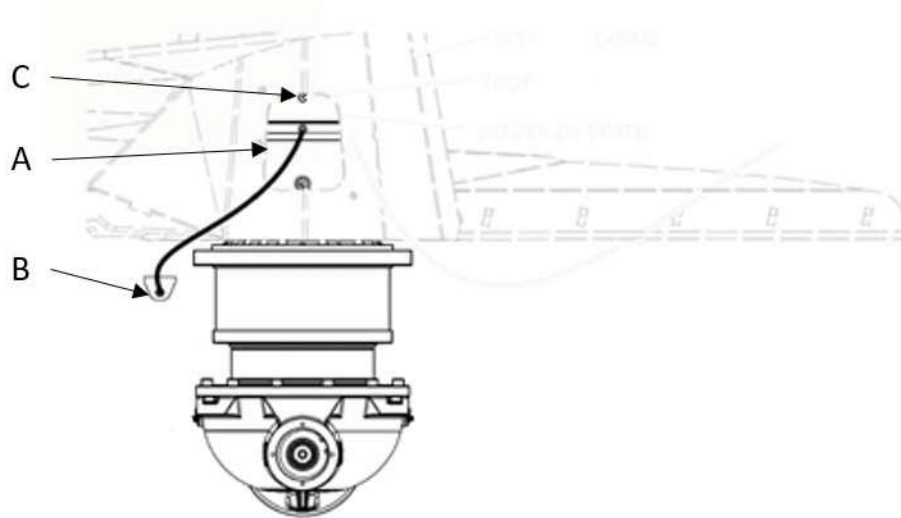

Figure 48 — Greasing the Planetaries
1. Remove the access hatch (Figure 48, A) and take the opportunity to clean the inside of the mixing auger.
2. Locate the greasing port underneath the oil tank (Figure 48, B).
3. Grease the planetary until grease comes out the overflow hole (Figure 48, C).